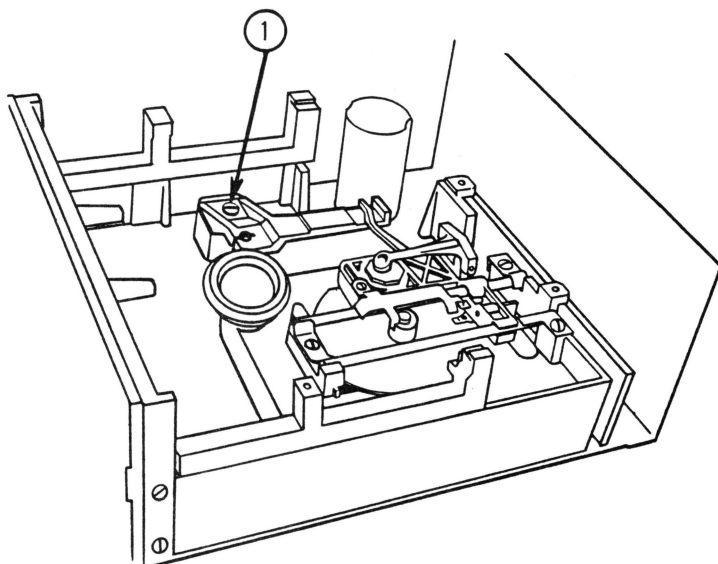

FIGURE 5
2. If tool cannot center properly because stop guide is too far forward, loosen stop guide mounting screw (Figure 5,#1), accessible through small round hole on left side of the tool, and allow guide to move back.